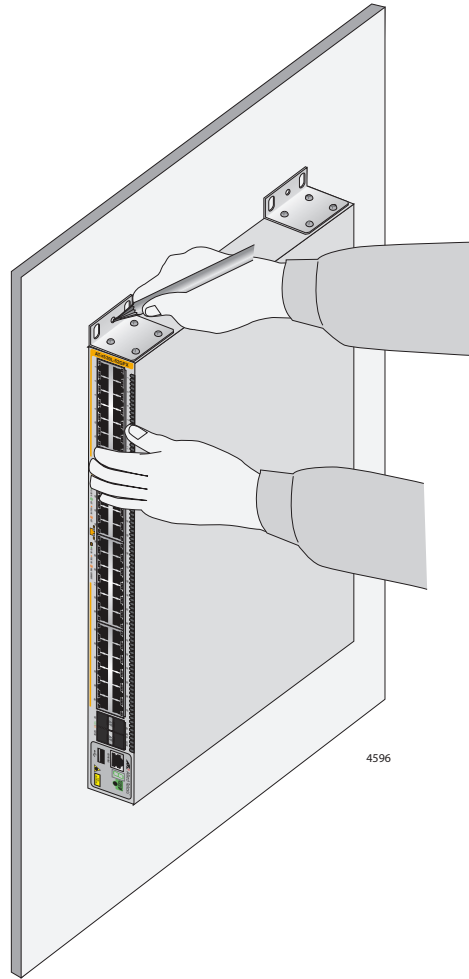

Figure 65. Marking the Locations of the Bracket Holes on a Concrete Wall
3. After attaching the brackets, have another person hold the switch on the concrete wall at the selected location for the device while you use a pencil or pen to mark the wall with the locations of the screw holes in the four brackets (one screw per bracket). Refer to Figure 65 on page 104.